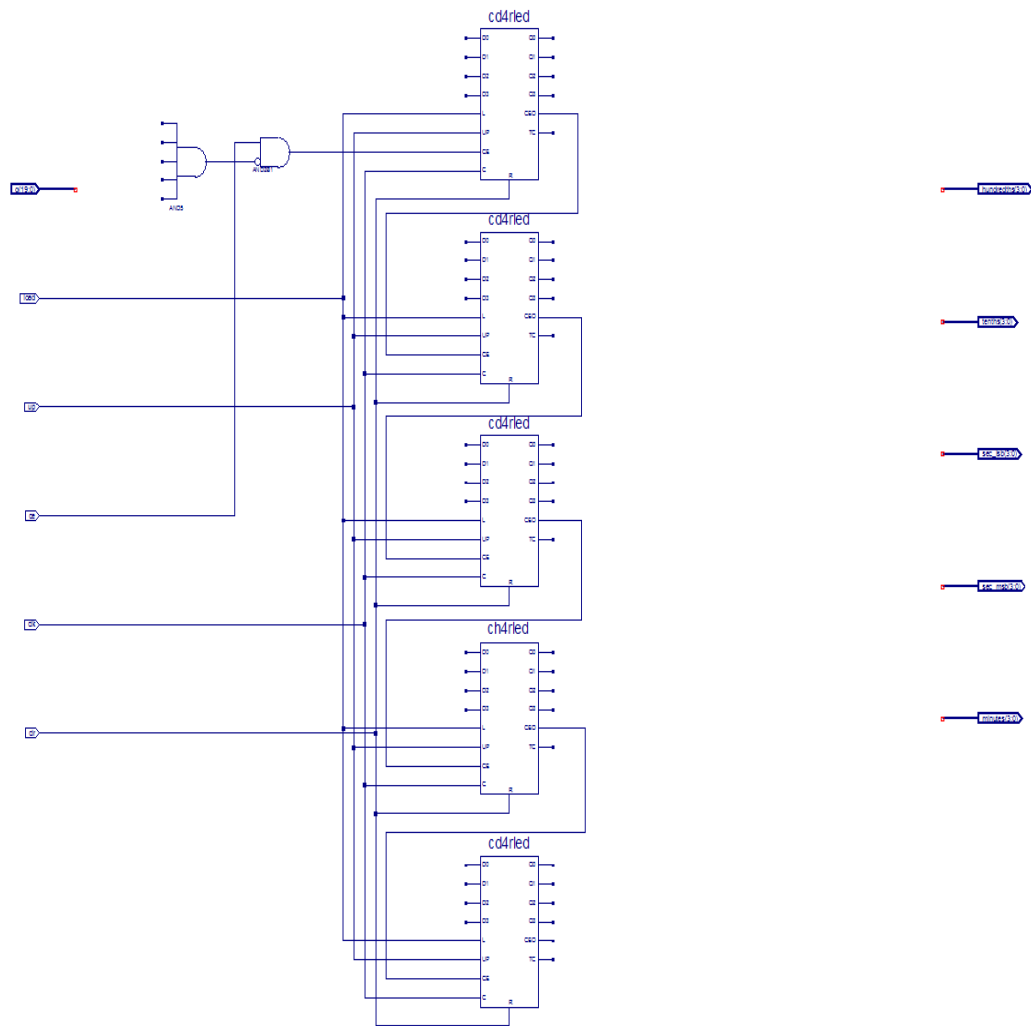

Figure 3-10: Partially Completed time\_cnt Schematic
5. Place three more cd4rled symbols on the schematic by moving the cursor with attached symbol outline to the desired location, and clicking the left mouse button. See Figure 3-10
Refer to Figure 3-10 for placement locations.
4. Connect the **load**, **up**, **clk**, and **clr** input IO markers respectively to the **L**, **UP**, **C**, and **R** pins of each of the five counter blocks and connect the **CEO** pin of the first four counters to the **CE** pin of the next counter as shown in Figure 3-10.